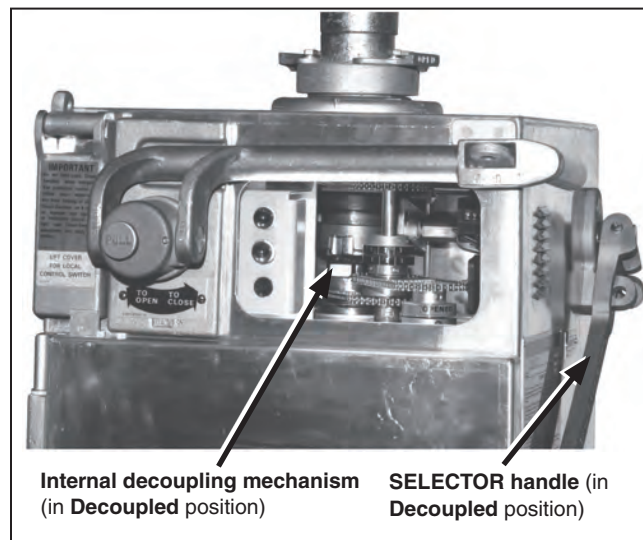

Figure 52. Verify switch is decoupled.
**STEP 3.** Look through the observation window and verify the internal decoupling mechanism is in the **Decoupled** position. See Figure 52.